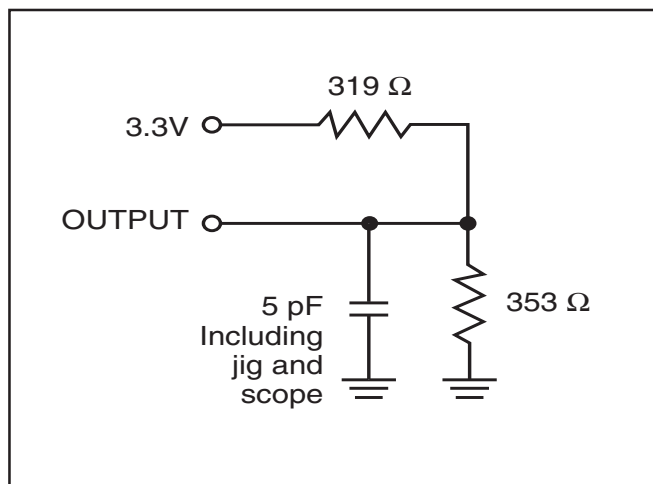

Figure 2
- Tested with the load in Figure 2. Transition is measured  $\pm 500$  mV from steady-state voltage.
2. Tested with the load in Figure 2. Transition is measured  $\pm 500$  mV from steady-state voltage. Not 100% tested.